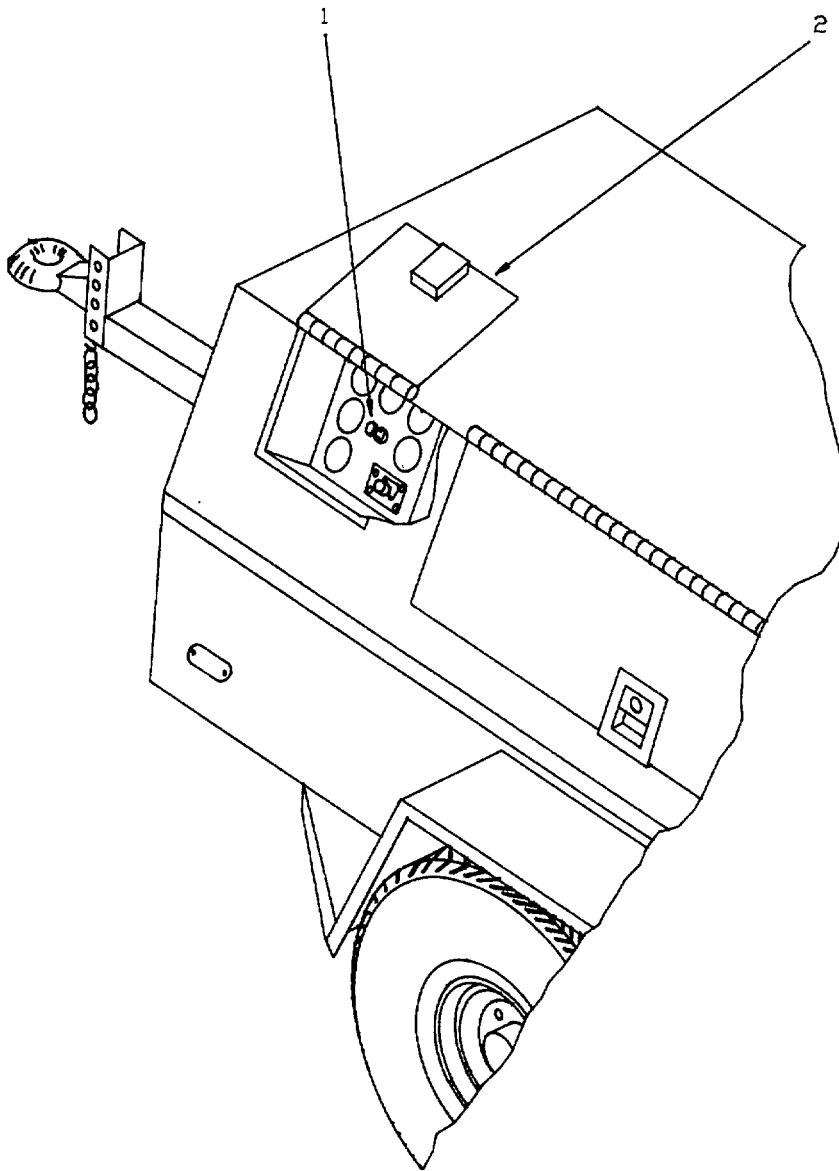

Figure 2-9. Frame Control Panel Knob.
- b. Push knob (1, Figure 2-9) located inside frame control panel access door (2) to allow fuel flow.
- a. Pull knob (1, Figure 2-9) inside frame control panel access door (2) to shut off fuel.